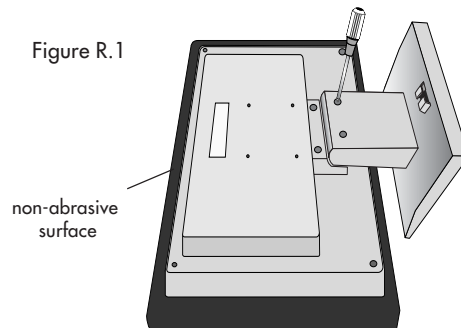

Figure R.1
2. Place monitor face down on a nonabrasive surface (**Figure R.1**).
3. Remove the 2 screws on the stand and lift off the stand (**Figure R.1**).
1. Place monitor face down on a non-abrasive surface (**Figure R.1**).